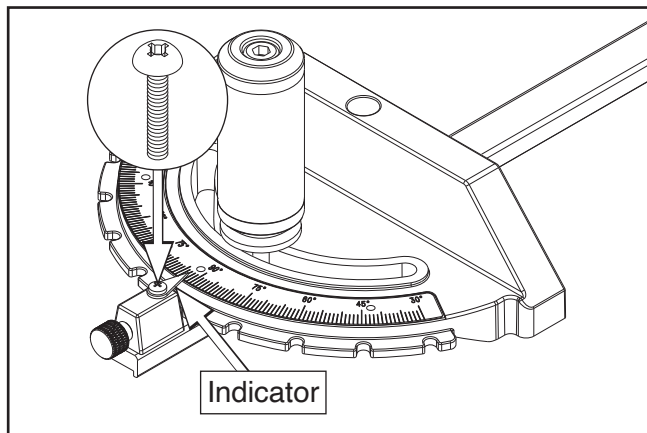

Figure 130. Location of angle indicator and Phillips head screw.
5. Loosen Phillips head screw shown in **Figure 130**, adjust indicator so it points to 90°, then tighten screw to secure.